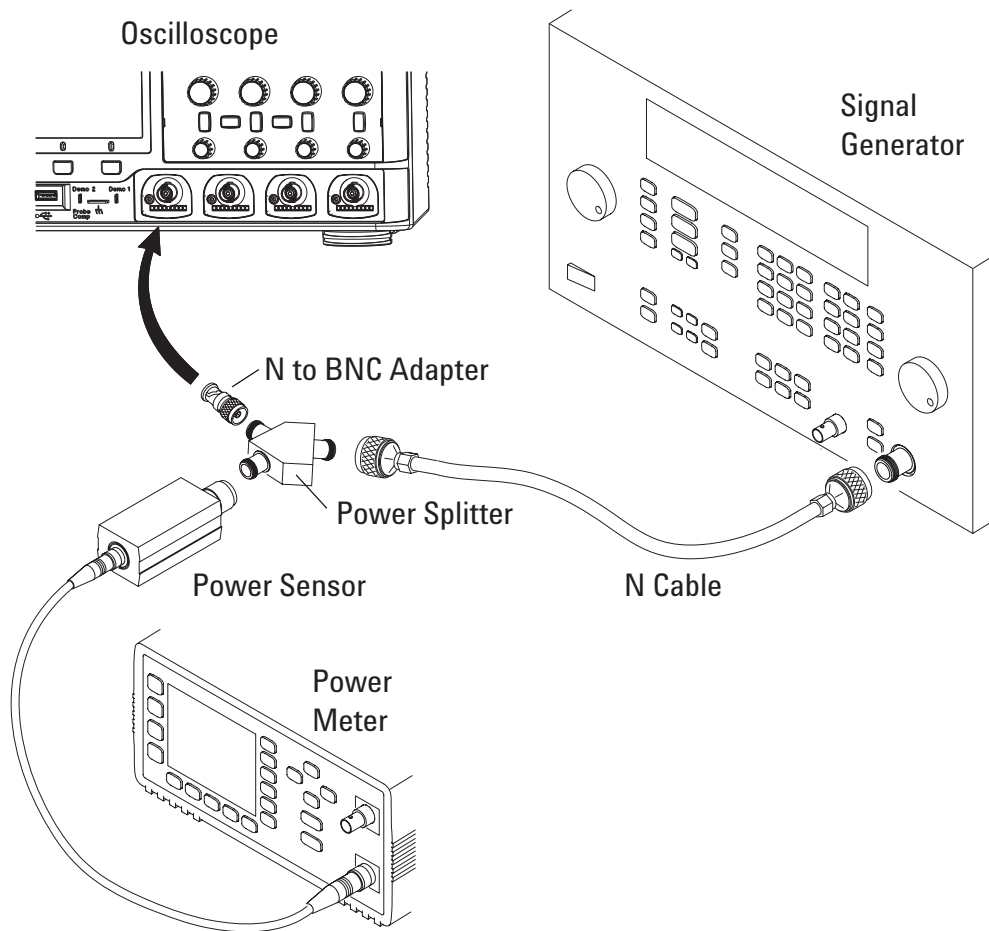

Figure 7 Setting Up Equipment for Bandwidth (-3 dB) Verification Test
- 1 Connect the equipment (see **Figure 7**).